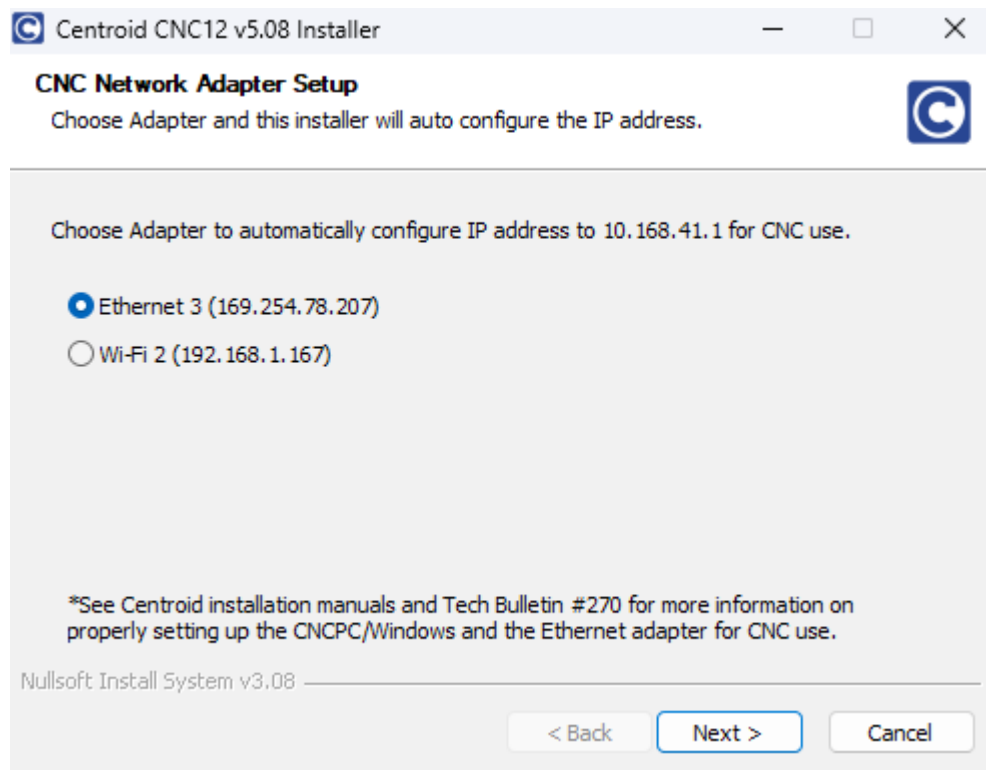

Figure 3.2.9
2. If the Ethernet Adapter has not yet been set up for CNC control, you will see a screen as shown in Figure 3.2.9. Select the Ethernet option to automatically configure the IP address for CNC use and click “Next”. **DO NOT** select the Wi-Fi option.